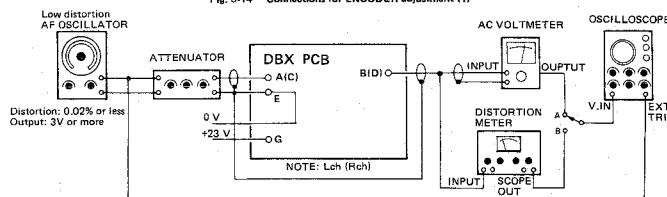

Fig. 5-15 Connections for ENCODER adjustment (2)
4. Change the connections to Fig. 5-15, then feed a 1 kHz/-8 dB (308 mV) input signal to the INPUT terminal. Adjust R76/R86 so that AC voltmeter reads -8 dB (308 mV).